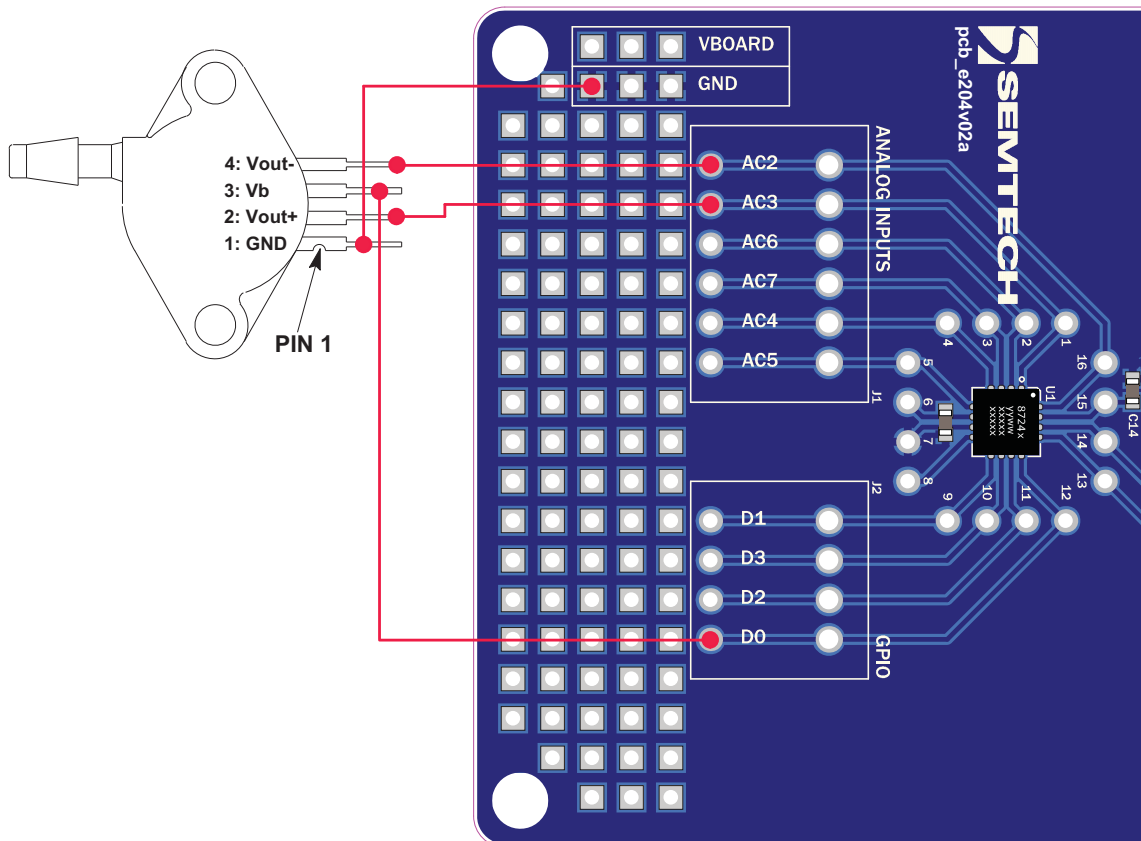

Figure 31. Connection on the SX8724SEVK Evaluation board
1. Connect the sensor to the board as described in **Figure 31 on page 38**.